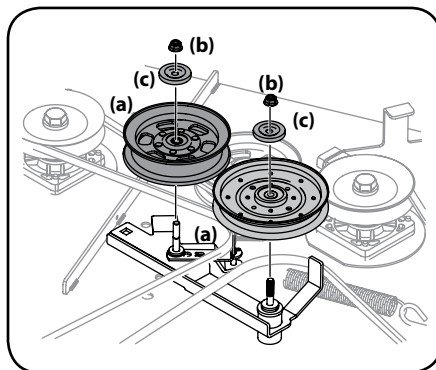

Figure 4-19
3. Remove the two idler pulleys (a) by removing the flange lock nuts (b) and pulley caps (c) that secure them to the deck and the idler arm. See Figure 4-19. Do not lose any of the hardware when removing the flange lock nuts (b).
6. Place the belt around the idler pulleys removed in step 3 with the 'V' side facing in. Once in place, reinstall all the hardware and tighten the flange lock nut to secure the assembly. See Figure 4-19.